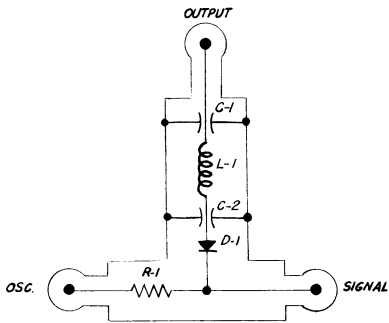

Figure 1. Schematic Diagram.
2. **DESCRIPTION.** The Type 874-MR Mixer Rectifier consists of a short coaxial line with a 250-ohm series resistor and a crystal rectifier, terminated in a low-pass filter with a cut-off frequency of 40 Mc. (See Figure 1.) The output of a local oscillator is applied to the Type 1N21-B crystal diode through the 250-ohm resistor, while the signal to be detected is applied directly to the diode. The 250-ohm resistor insures that the impedance presented to the signal will always be reasonably high. The high-frequency signal is heterodyned down to 30 Mc or less and amplified by a radio receiver or i-f amplifier.